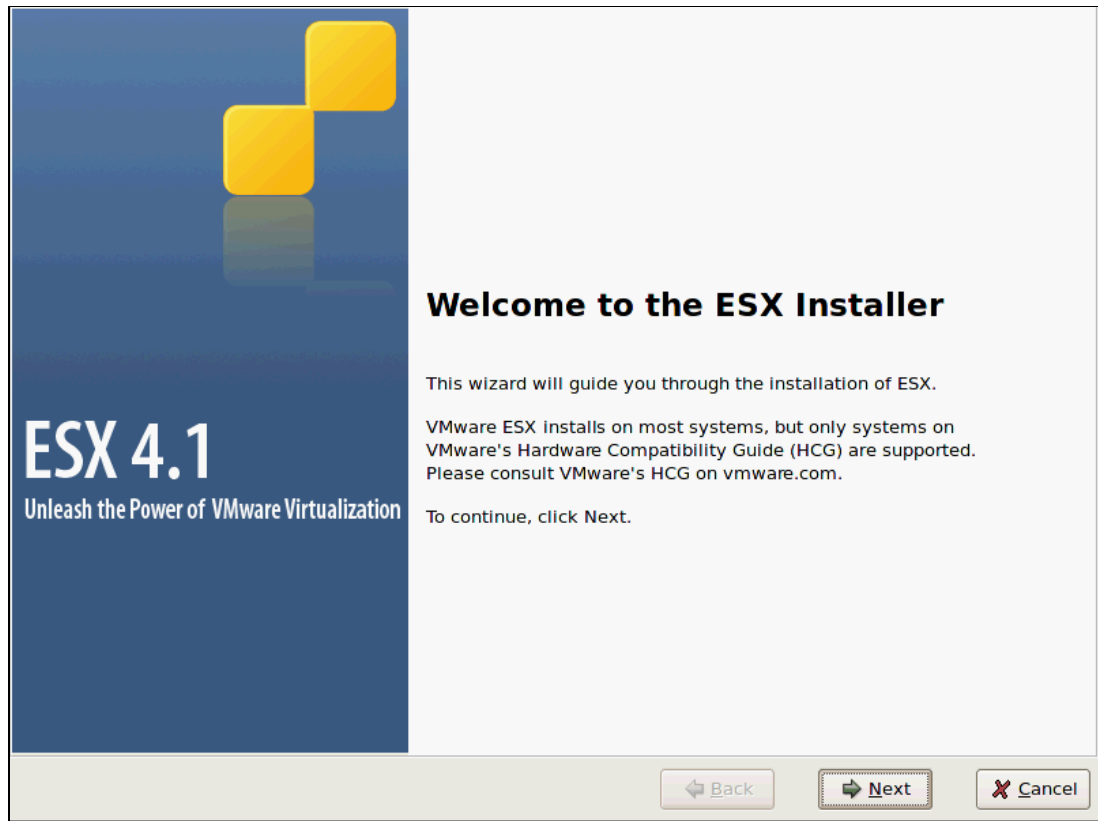

Figure 22-13 ESX Welcome Screen
2. At the Welcome panel as shown in Figure 22-13, click **Next**.